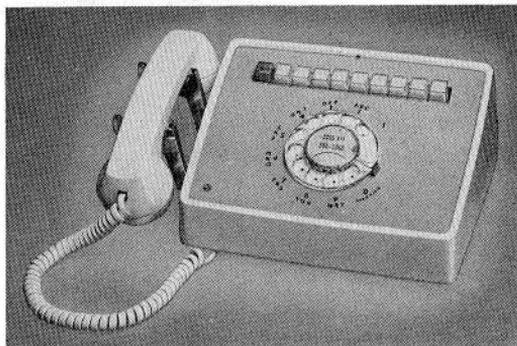

Fig. 1—830CM Telephone Set
2.01 The 830-(Rotary dial) and 2830-(TOUCH-TONE® dial) type telephone sets are obtainable as modular or complete desk-type, 10- or 11-button, key telephone sets (Fig. 1, 2, or 3) equipped to provide standard key system features.